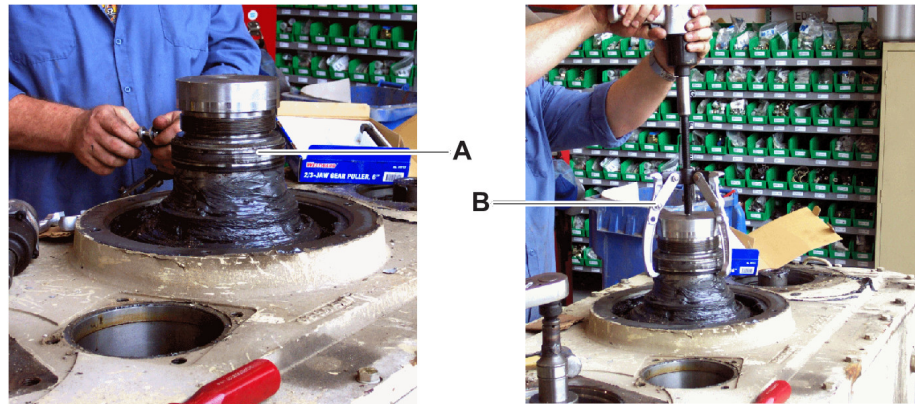

Figure 9
9. Remove the wear sleeve (Figure 9, item A) with a three-claw puller tool (item B).